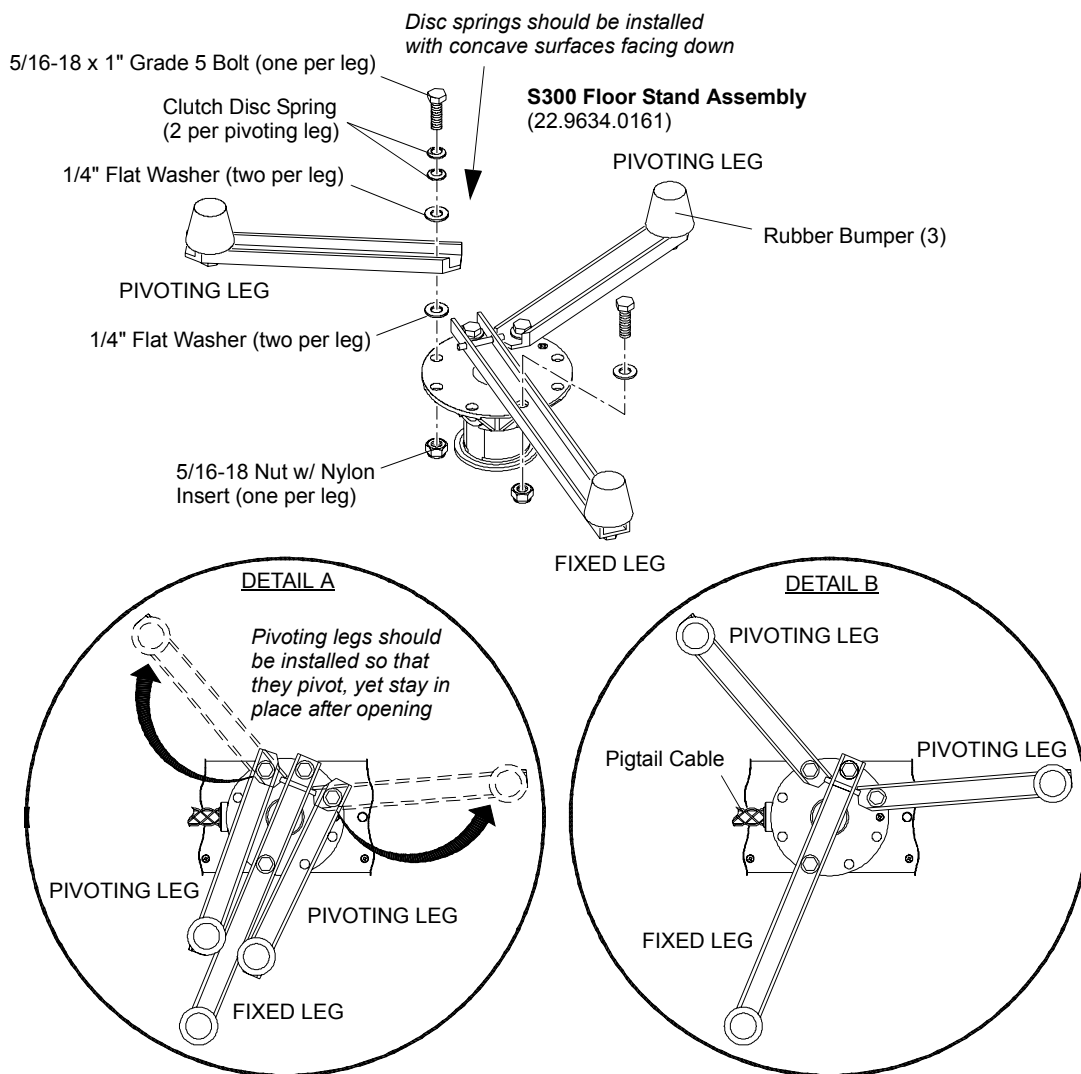

Figure 3-19: Installing Floor Stand
A Series 300 luminaire may be mounted in an upright floor position using a Series 300 floor stand. The floor stand (22.9634.0161) includes all necessary hardware as shown in **Figure 3-19**.
- Step 1. Orient pigtail cable as shown in **Figure 3-19** DETAIL B and rotate pan tube accordingly.
- Step 3. Tighten nuts and bolts until there is proper tension: just enough so pivoting legs stay in place, but not so much that the legs don't pivot. See **Figure 3-19** DETAIL A.